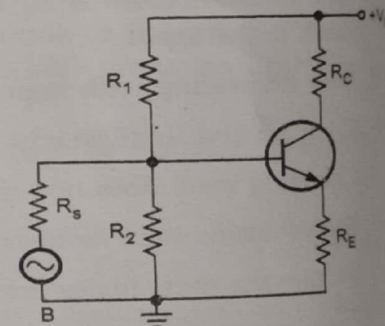

Fig. Q.2.1
• Consider that the signal source is connected directly to the base of the transistor as shown in Fig. Q.2.1.
• Looking at the Fig. Q.2.1 we can immediately notice that source resistance R_s is in parallel with R_2 . This will reduce the bias voltage at the transistor base and,